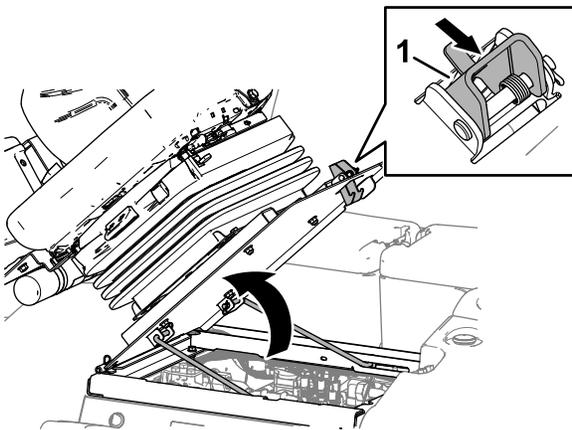

Figure 63
1. Move the seat latch outward (Figure 63).